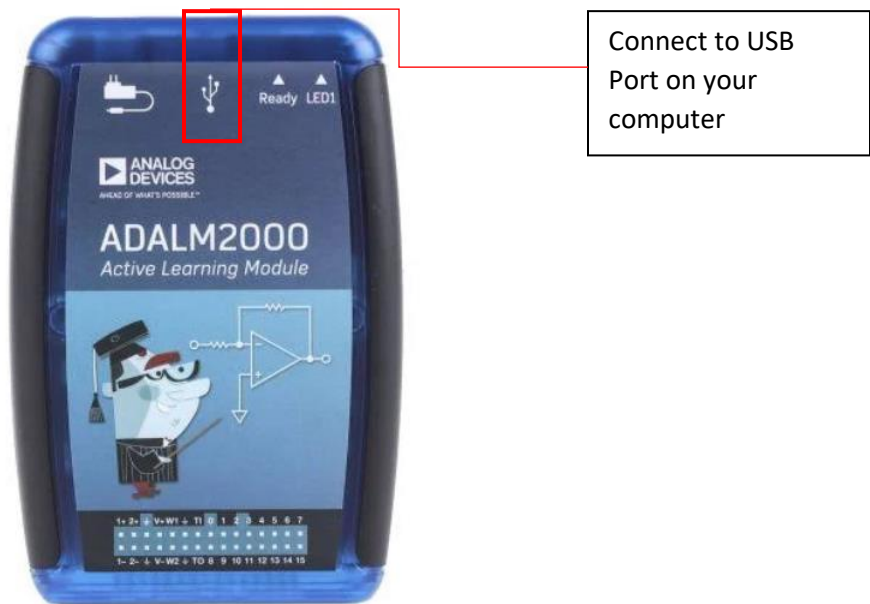

Figure 5. ADALM2000 (M2K)
3. Connect your ADALM2000 via USB port shown in Figure 5 below.